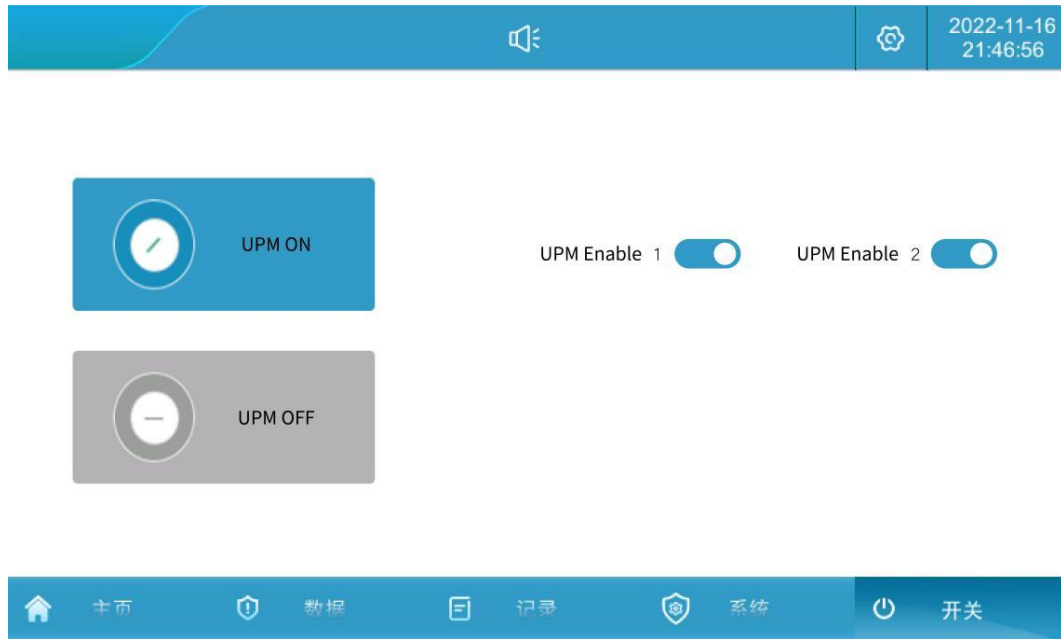

Figure 5-3 Switching Interface
- 3、 In the touch screen “switch” page to enable all modules (you can also turn on some of the modules according to actual needs, the number of modules to the actual delivery shall prevail, in order to two modules, for example), click “system on” , the normal opening time of about 30 seconds, as Figure 5.3.
- 4、 Converter shutdown: When the converter is in operation, click "Converter shutdown", as in Figure 5.3.